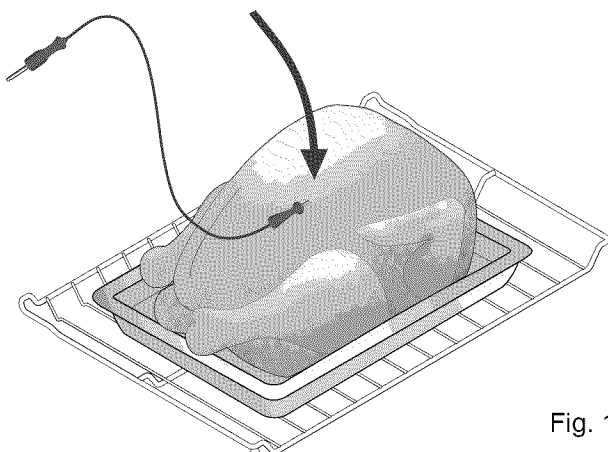

Fig. 1
- For whole poultry or turkey, insert the probe in the breast area -Fig. 1-.